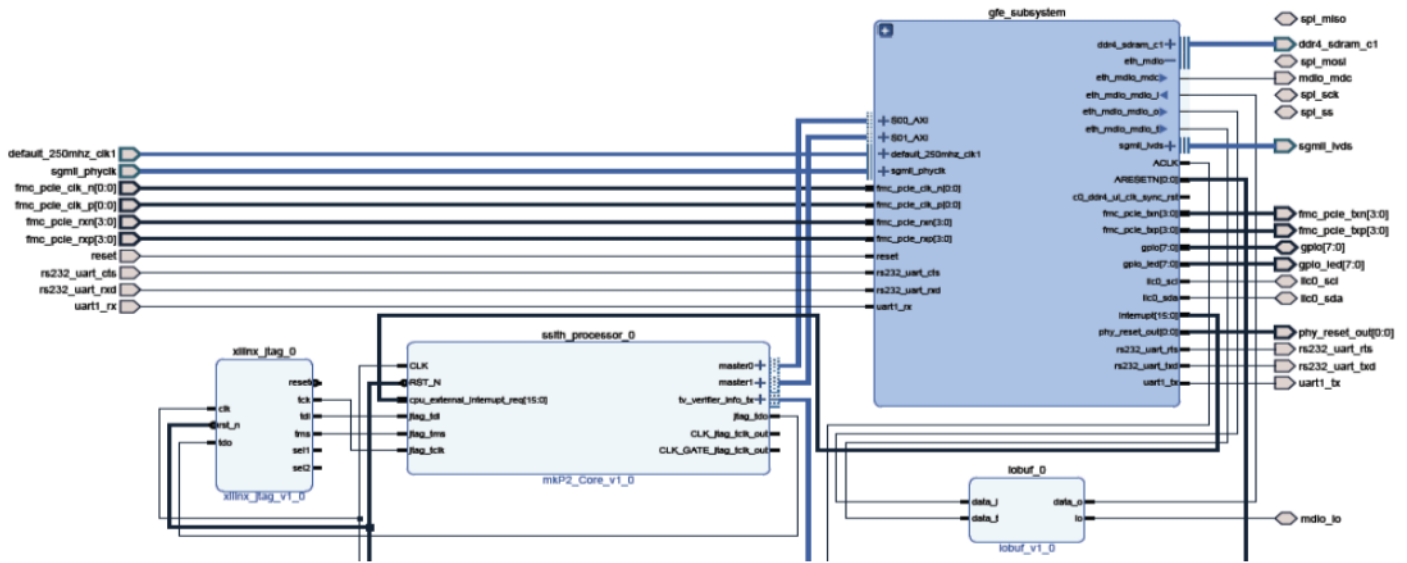

Figure 2: GFE top-level Vivado block design
The block diagram in Figure 2 is implemented using Vivado's IP Integrator design flow: https://www.xilinx.com/content/dam/xilinx/support/documentation/sw_manuals/xilinx2018_3/ug995-vivado-ip-subsystems-tutorial.pdf
The top-level GFE is a Vivado block design consisting of five instances (Figure 2): (1) a Xilinx JTAG module (xilinx_jtag_0); (2) P{1,2,3} processor (ssith_processor_0); (3) a subsystem block design (gfe_subsystem) that instantiates all the other Xilinx modules; (4) an Ethernet IO buffer (iobuf_0).